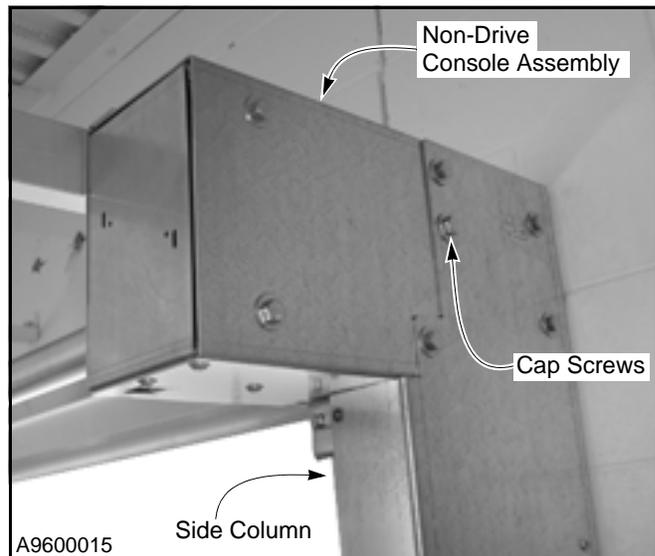

Figure 19
- Inspect the hex head cap screws used to secure the console assembly to the side columns. Replace any missing or damaged hardware. (See Figure 19.)